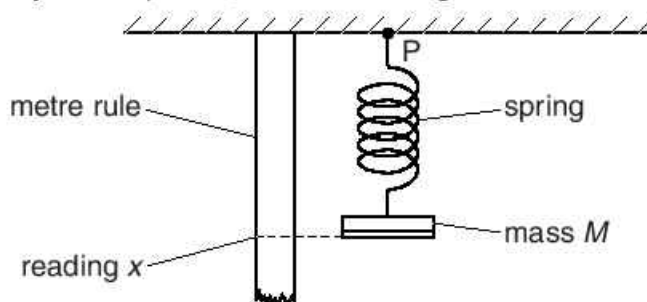
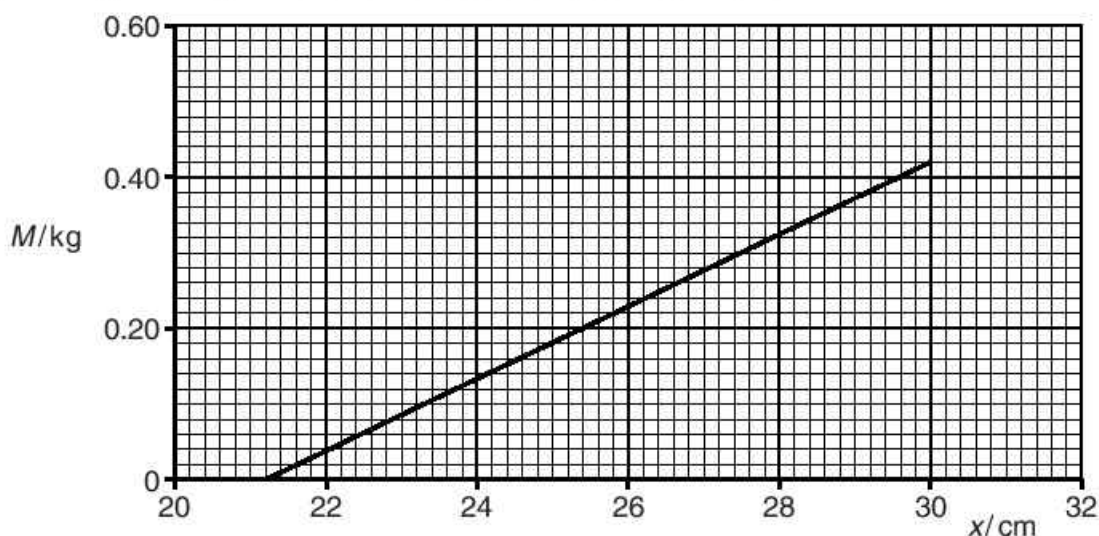

Fig. 4.1
Fig. 4.2
18 A spring hangs vertically from a point P, as shown in Fig. 4.1.
A mass M is attached to the lower end of the spring. The reading x from the metre rule is taken, as shown in Fig. 4.1. Fig. 4.2 shows the relationship between x and M .
- (a) Explain how the apparatus in Fig. 4.1 may be used to determine the load on the spring at the elastic limit.
- (b) State and explain whether Fig. 4.2 suggests that the spring obeys Hooke's law.